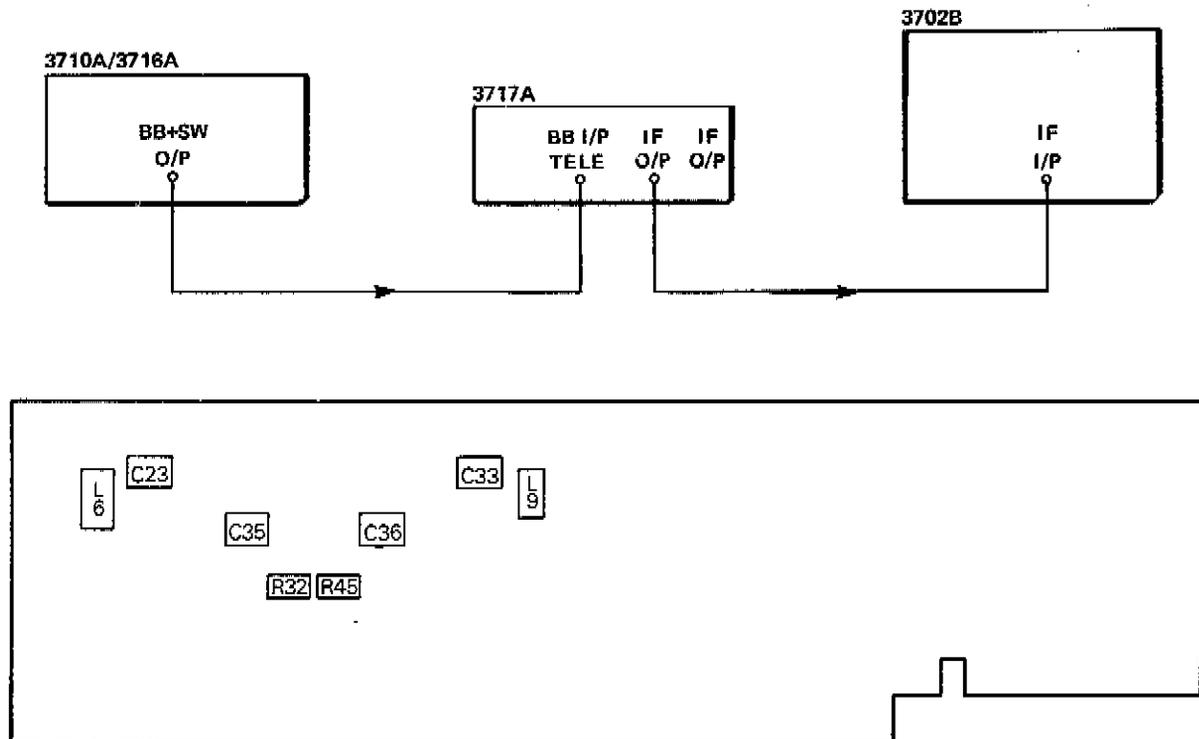

Figure 5-6 IF Level and Flatness Setup and A12 Adjustment Locations
1. Connect the equipment as shown in Figure 5-6. Connect the 3702B IF INPUT to the 3717A LEFT IF Output. Set the controls as follows:
3. Adjust 3717A A12R32 (LEFT IF OUTPUT) or A12R45 (RIGHT IF OUTPUT) for a 3702B meter reading of 0 ± 1 dB. (See Figure 5-6 for adjustment locations.) If the meter reading cannot be set on scale see step 9.